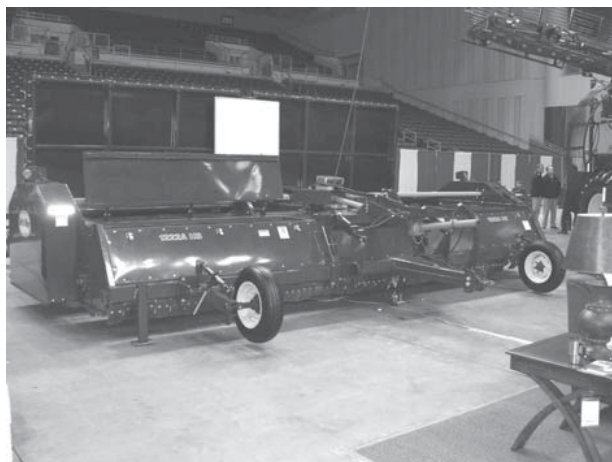
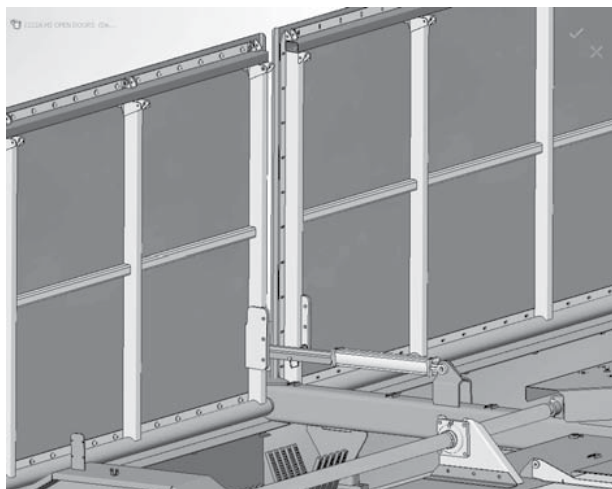

Figure 12 - Open Top Covers, Front.
Figure 13 - Open Top Covers, Rear.
3. After all adjustments are made, run the defoliator at operating speed for 10 to 15 minutes. Shut down the machine and once all parts have stopped, open the top covers, see note (Figure 12 and Figure 13) and re-check entire machine for any loose hardware and re-check the drives for belt tension and alignment.